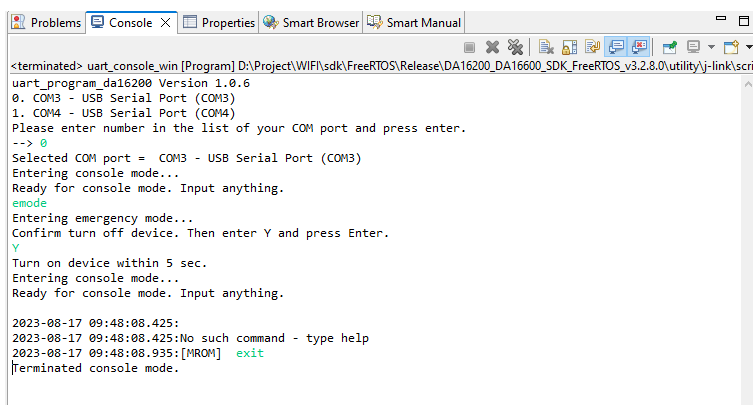

Figure 43: Emergency Mode for Programming Firmware Image
2. Programming firmware image over serial interface as shown in Figure 43.